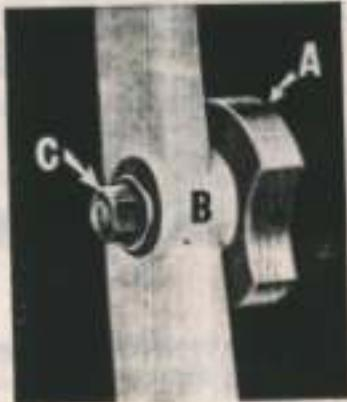
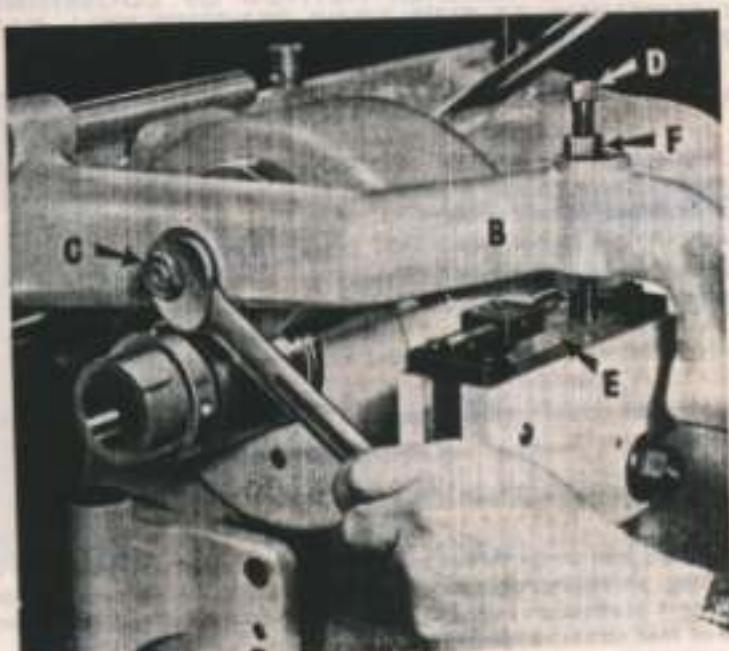

Figure 13
Figure 14
1. Apply the bronze lead screw follower "A" to the follower arm "B", Figure 13. The side of the follower stamped with the number corresponding to the pitch of the follower should be away from follower arm "B" as side not stamped is the surface held square and true for reference. Tighten nut "C" with fingers only—**DO NOTLOCK LEAD SCREW FOLLOWER** tight to follower arm until aligned with lead screw on spindle, per following instructions.
2. Bring lead screw follower arm "B", Figure 14, into operating position as shown.
3. With lead screw follower "A", Figure 13, loose, engage it, with lead screw and back of guide screw "D", as shown in Figure 14, until end of guide screw "D" does not bear on guideway "E" of automatic thread length control. This will allow lead screw follower to seat full depth into thread of lead screw. It may be necessary to rotate spindle slightly to engage follower properly. This may be done by hand or by jogging motor using Reverse-Forward control lever. Guideway "E" must be in position shown in Figure 14 when setting follower—Not in raised position as shown in Figure 16.
Figure 16 shows the guideway "E" in the raised or released position. To operate automatic thread length control by hand, press guideway "E" down to locked position as shown in Figures 14 and 15. To release pull stop screw "A", Figure 16, to the left.
Threading tool can be set in tool holder "H" in an approximate position. Adjust threading head until threading tool is about $\frac{1}{8}$ " from end of work. (When setting threading head be sure follower arm "B", Figure 14, is to the extreme right against headstock.)
Removable bracket "A" and guide block "B", Figure 22, are supplied as standard equipment with the HCT model chucking machine. The support bracket is used to give added support to threading unit guide bar when cutting of coarse pitch thread and/or when long work makes it necessary to mount the threading head toward the outer end of guide bar. Position guide block "B" on turret, as shown, and clamp in place with T-bolt. Then swing production threading unit into cutting position. Lead screw must be engaged with follower and guideway of thread length control in the "down" position, as shown in Figure 14. To level or align guide block "B" with spindle apply dial indicator to tool block; the same set-up can be used as shown in Figure 17.
When properly set up, guide bar support bracket "A" will govern the parallelism of the thread. Screw "D" should be advanced so that it touches the guide block "B" and leaves .001" to .002" clearance between guide screw "D", Figure 14, and guideway "E", Figure 14. After proper adjustment has been made, tighten lock nut "E", Figure 22, to retain adjustment.